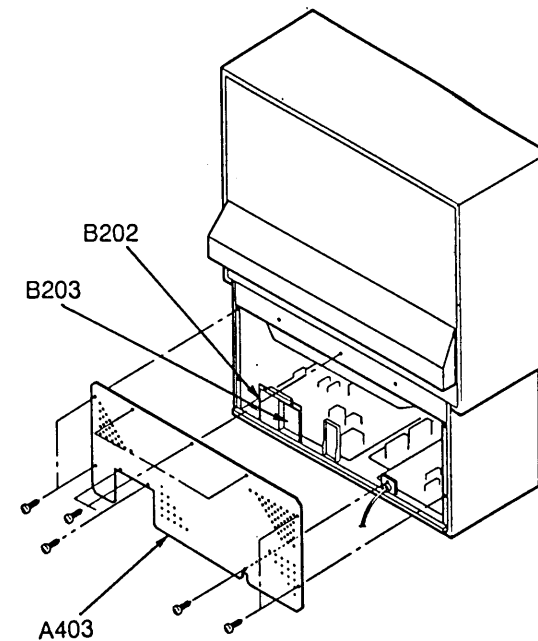

Fig. 11-1A
1. Remove the back cover fig. 11-1A.